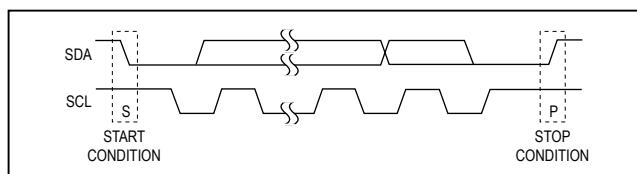

Figure 2. START and STOP Conditions
Each transmission consists of a START condition sent by a master, followed by the MAX7321's 7-bit slave address plus $\overline{R/\overline{W}}$ bit, 1 or more data bytes, and finally a STOP condition (Figure 2).
Both SCL and SDA remain high when the interface is not busy. A master signals the beginning of a transmission with a START (S) condition by transitioning SDA from high to low while SCL is high. When the master has finished communicating with the slave, the master issues a STOP (P) condition by transitioning SDA from low to high while SCL is high. The bus is then free for another transmission (Figure 2).